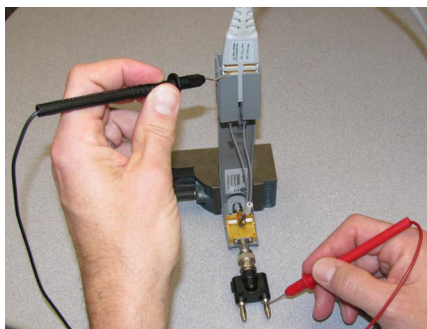

Figure 101 Measuring the Single-Ended Input Resistance the Solder-In Probe Head
- 7 To measure the single-ended input resistance, measure the resistance between the signal plug of the banana adapter and the probe amplifier ground, which can be accessed as shown in **Figure 101** (through the vent window of the probe amplifier).